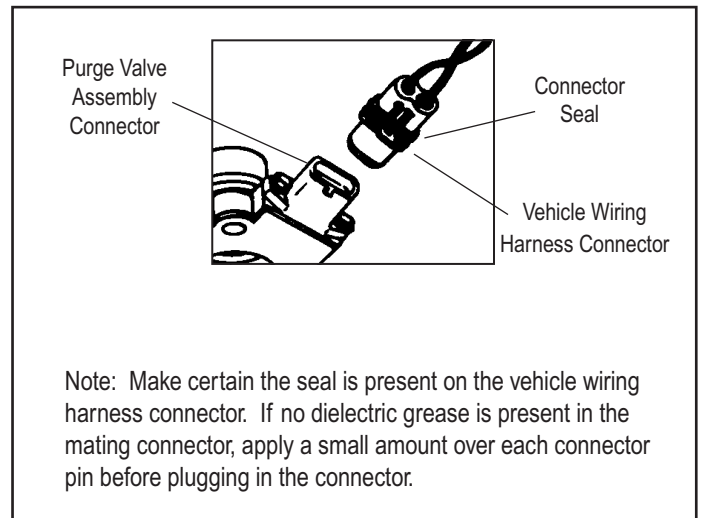

Figure 5 Wiring Harness Connectors
4. Unplug the vehicle wiring harness connector from the heater and thermostat assembly connector on the end cover assembly. *Refer to Figure 5.*
4. Re-connect the vehicle wiring harness connector to the AD-9 air dryer heater and thermostat assembly connector by plugging it into the air dryer connector until its lock tab snaps in place. Refer to Figure 5.
- A. Electric Power to the Dryer (Refer to Figure 5)